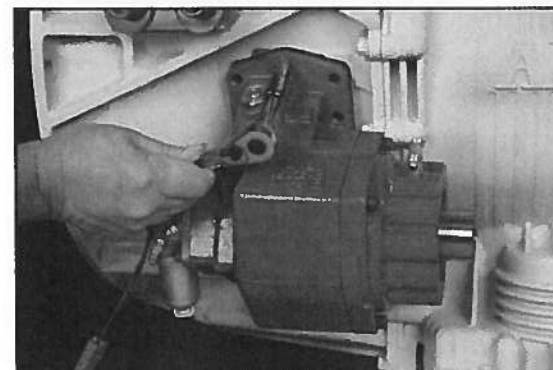

Fig. 14
6. Position the PTO and secure it with the top capscrew (**Fig. 14**).